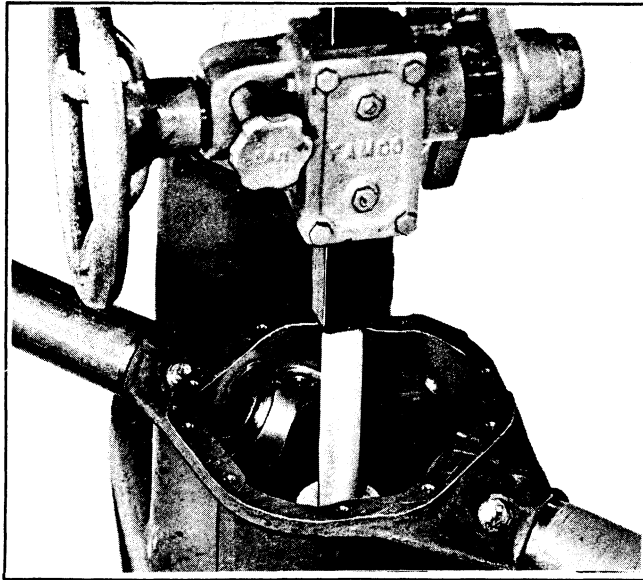

Figure 2-9. Pressing Out Oil Slinger
15. Place housing assembly on press (Figure 2-9). With a suitable pressing plug, press out outer pinion shaft bearing oil slinger (27) and oil seal (28). Remove oil seal gasket (29).